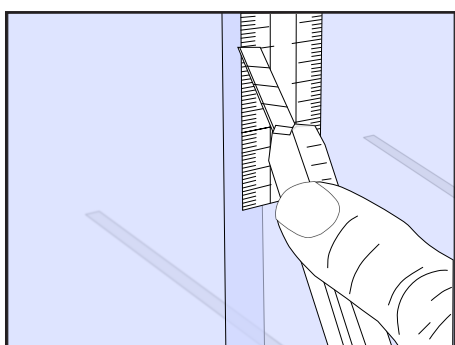

Figure 22
- › Place the ruler on the entire length of the overlap and in its middle. (FIG. 22)